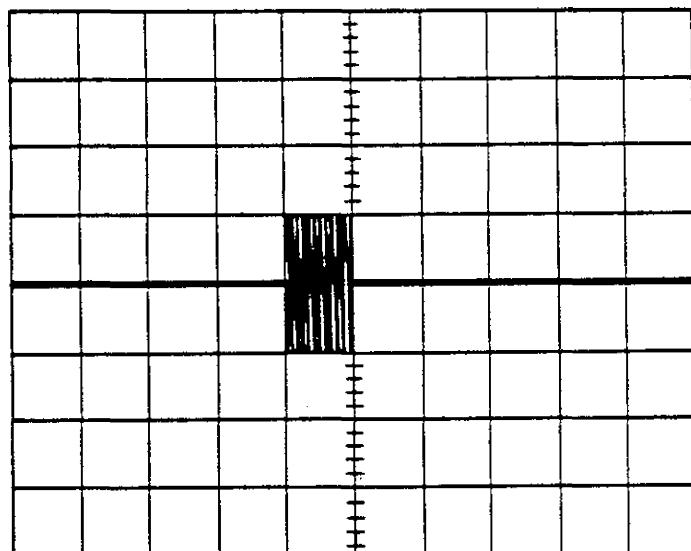

FIGURE 5-6
9. Ensure the index-to-data burst occurs at 200 ± 100 microseconds from the leading edge of the index pulse (Figure 5-6).